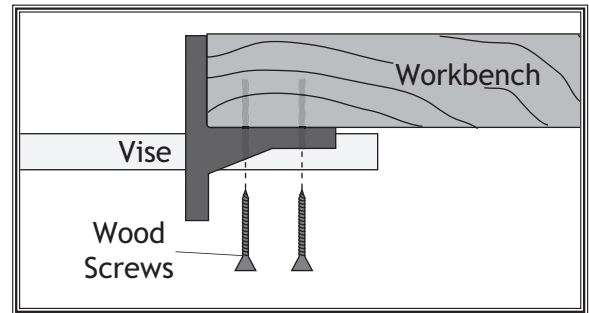

Figure 4. Attaching vise to workbench.
- Attach the vise to the workbench with four #10 x 2" wood screws through the underside of the workbench, as shown in **Figure 4**.